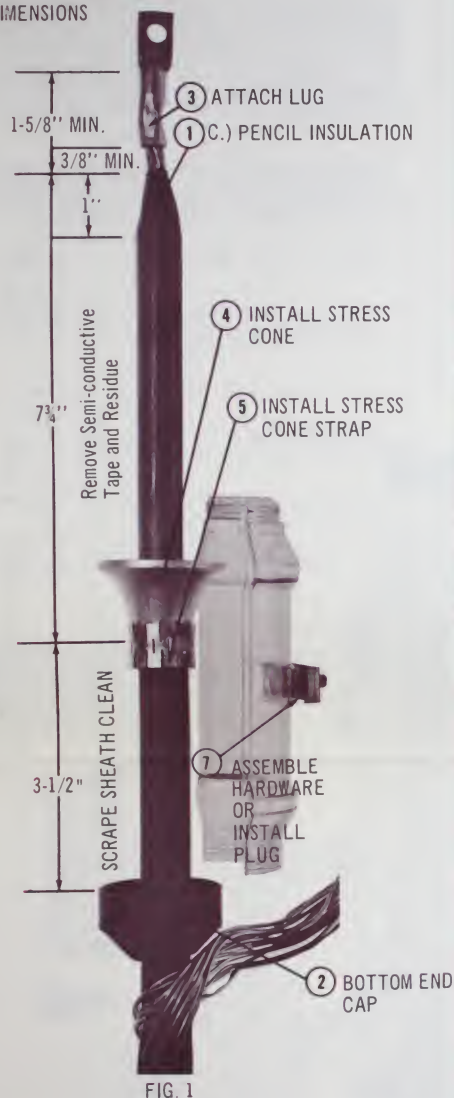

FIG. 1
- ① CABLE PREPARATION - Use exact dimensions as shown at left of Fig. 1.
(c) PENCIL INSULATION on conductor 1 inch as shown in Fig. 1.
If a conductor lug or terminal pin is NOT used or the dimensions shown in Fig. 1, the conductor strands must be soldered completely closed for a minimum distance of 2 inches above the cable insulation.